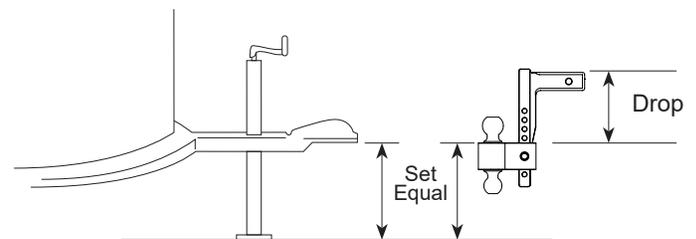

Figure 2
4. Measure from the ground to the bottom of the coupler on the trailer, then lock the ball holder into place on the drop bar at that height, with the correctly sized hitch ball for your trailer coupler facing up. **See Figure 2.** You may need to invert the drop bar and use it in the rise position to reach the correct ball height for your particular trailer.
Figure 2: Top of ball holder height should initially be set equal to the bottom of the coupler socket height with the trailer parallel to ground, then adjusted upward to compensate for the distance it drops when the tongue weight is being carried.